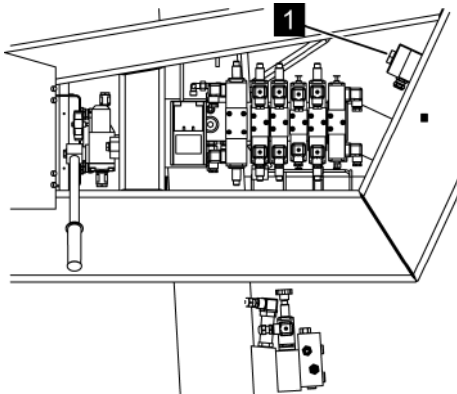

Fig. 143: Key switch for service operation
6. ➤ Switch on the key switch (Fig. 143/1) for the service operation.